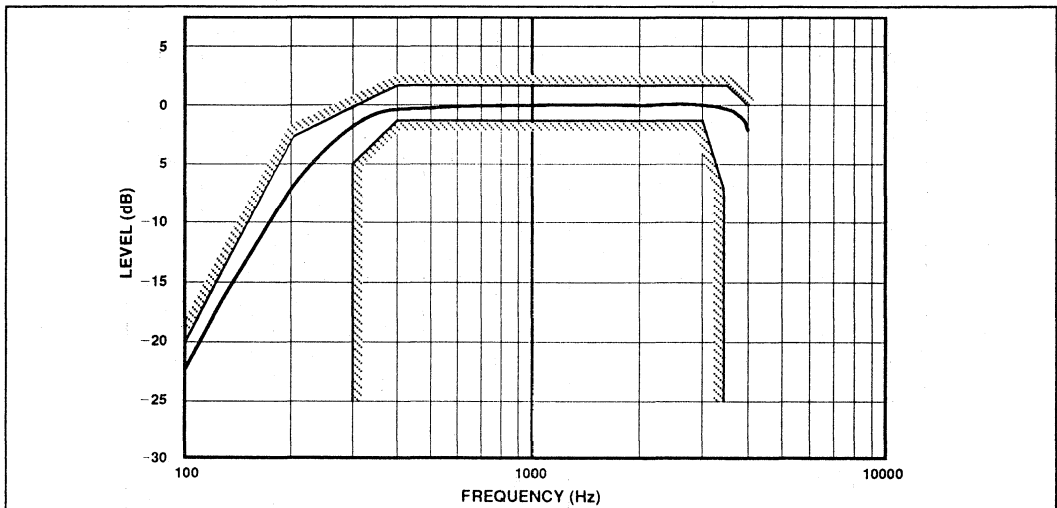

Fig. 9 Typical receive frequency response
**RECEIVE FREQUENCY RESPONSE (SEE FIG. 9)**